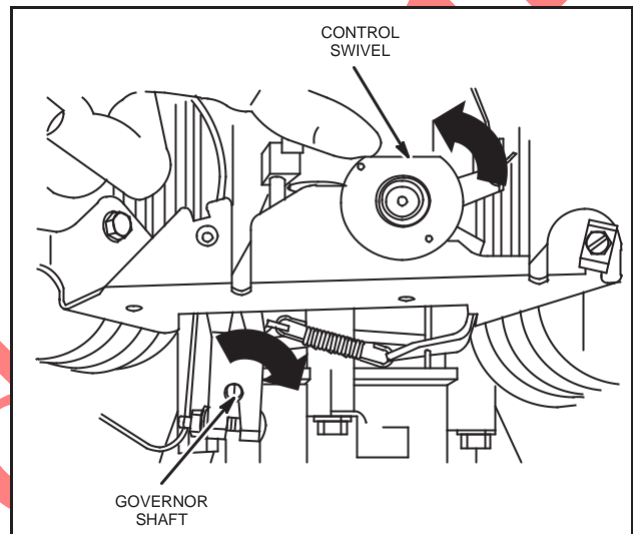

Fig. 23 – Adjust Governor – Static
2. Rotate governor shaft clockwise as far it will go, Fig. 23.